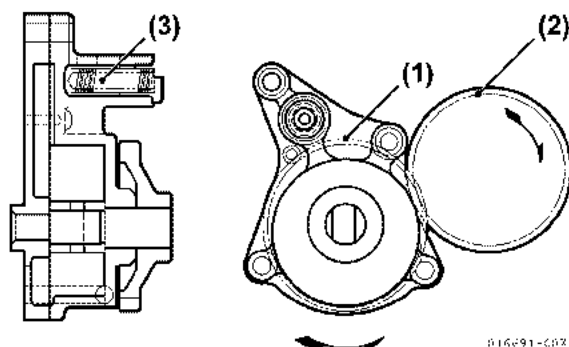

Figure 8-12
The lubricating oil pump assembly with drive gear (Figure 8-12, (1)) is driven by the crank gear (Figure 8-12, (2)). The lubricating oil pump is fitted with an oil pressure control valve (Figure 8-12, (3)).